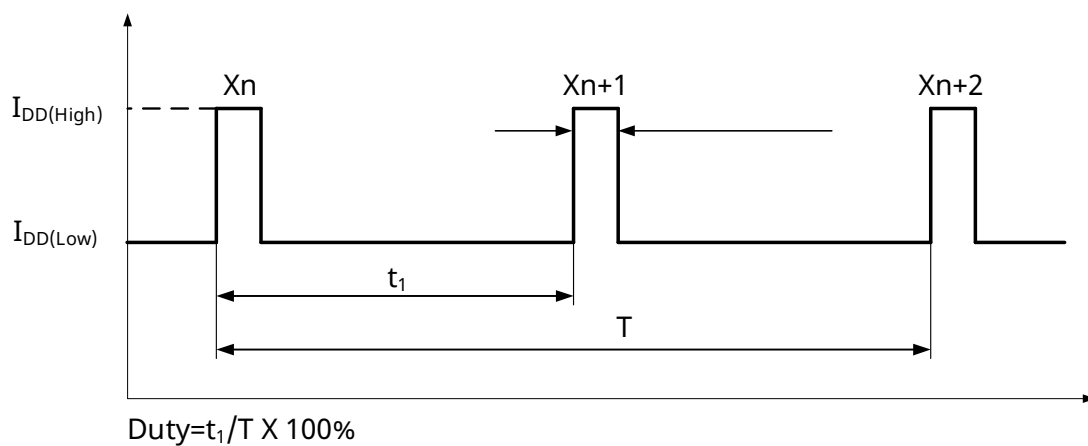

Fig.9 Duty cycle definition
(2) The magnetic field difference between the two Hall induction points on the outside of the back magnetic field only, without gears or at rest of the gears
(3) The difference between the magnetic field value of the middle Hall induction point and the average magnetic field value of the outer two Hall induction points when the back magnetic field is only, no gear, or the gear is stationary
(4) After eliminating the back magnetic deviation, the magnetic field difference between the two outside Hall induction points is passed in the case of gear or magnetic ring rotation
(5) The ratio of the change in current to the increase in power supply as the operating voltage increases
(6) The duty cycle of 3 output pulses is calculated. Refer to Figure 9 for specific definition